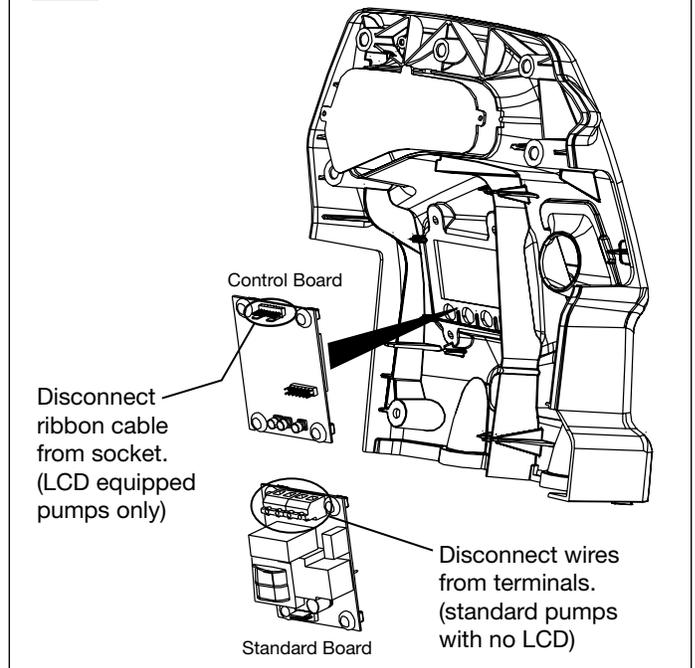

Figure 4, Disconnecting Electrical Wires and Cables (all pumps except PT and BTW models)
Note: Pump models with shroud-mounted LCD (liquid crystal display) and/or shroud-mounted on-off button: A ribbon cable or electrical wiring (varies depending on model) must be disconnected from the circuit board located on one of the shroud halves. This circuit board is referred to as the "control board" on LCD equipped pumps and as the "standard board" on pumps equipped with a shroud-mounted on-off button and no LCD. Refer to steps 2, 3 and 4 as applicable for your pump model. Also see Figure 4.
- d. Re-connect the ribbon cable from the control board to the power board. See Figure 4.